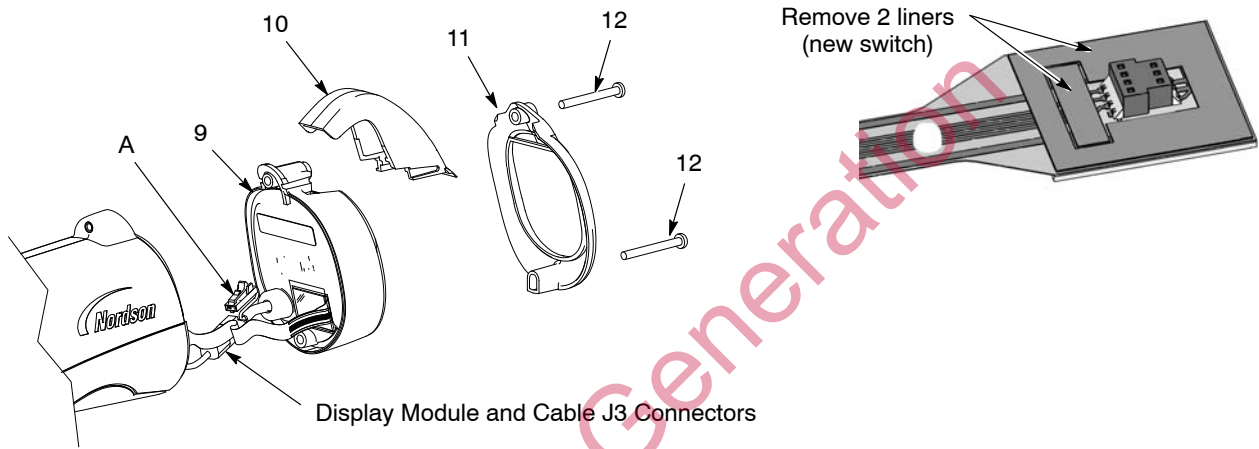

Figure 5-1 Display Module Replacement
1. See Figures 5-1 and 5-3. Unscrew the top and bottom screws (12) holding the bezel (11), hook (10) and display module (9) onto the gun body.
1. On the display module (9), carefully clean the trigger switch header mounting surface and surrounding area with isopropyl alcohol. Allow the surface to dry completely before proceeding.
2. If you are installing a new trigger switch, remove the two liners from the connector side of the trigger switch header as shown in Figure 5-1.
5. Connect the J3 display module and cable connector together. The display module ground connector (A) is not used in this version of the gun.
7. Slide the hook (10) onto the display module, then install the bezel (11).
8. Secure the module with the screws (12).
1. See Figure 5-1. Remove the display module as described in *Display Module Replacement*.